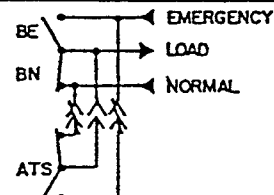

FIG. 3 BP IS BYPASS NORMAL WITH ATS IN TEST LOCATION. (ATS LOAD CONNECTION IS OPEN)
4. Test Switch (TS) on bottom cabinet door will allow electrical testing of ATS. (Fig. 3).